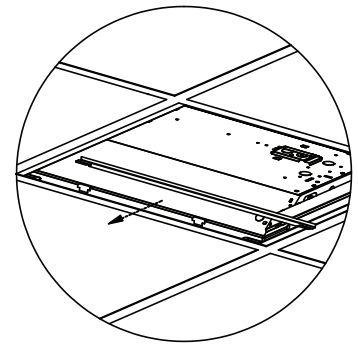

Fig. 3
3. Install LED panel side brackets between the fixture and T-grid, if you are uncomfortable with the gap between the fixture and T-grid, There are two tabs to allow for placing the side brackets into the slot of end brackets. (Fig.3)